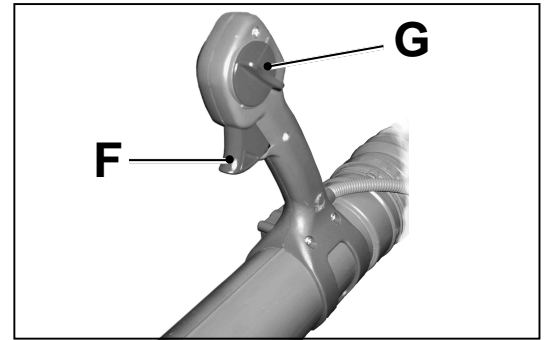

fig.5
- The **throttle trigger** sited on the blower tube handle ("F" fig.5) ensures constant control of the airstream in relation to operating requirements.
- A practical **limiter on the throttle trigger** ("G" fig.5) serves to adjust air flow directly from the handle to suit operating requirements.